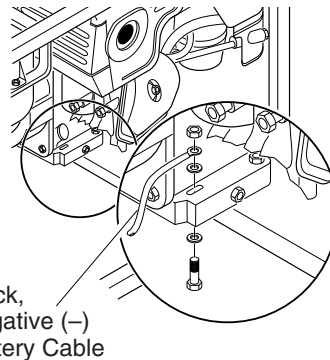

Figure 9 - Connecting Black, Negative (-) Battery Cable to Engine Block (Model MGH7000C Shown)
2. Attach the black, negative (-) battery cable to the engine block. Use the bolt, nut, and two washers provided with the battery cables. Use long mounting hole on opposite side of engine from starter solenoid. Attach cable as shown in Figure 9.